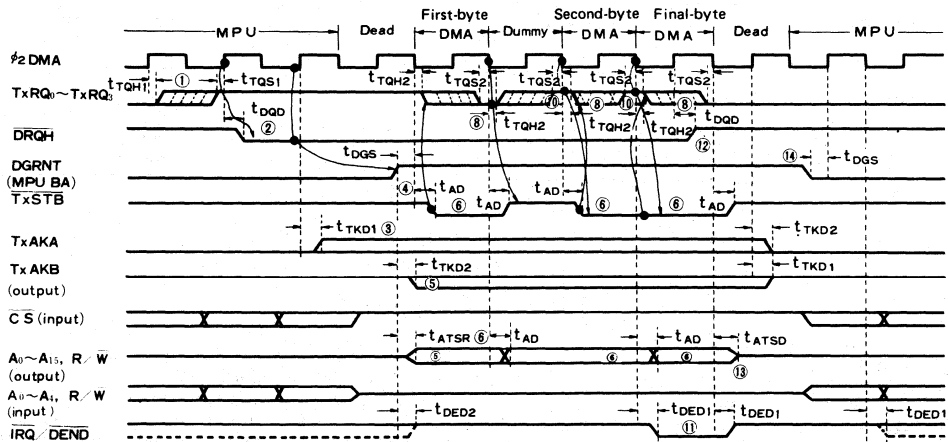

Figure 16 HALT Burst Mode
Its timing chart and flow chart are shown in Fig. 16 and Fig. 13 respectively. Procedure of transfer is the following (No. ① ~ ⑭ in Fig. 16 correspond to the following items).
- ① TxRQ input is checked at the rising edge of  $\phi_2$  DMA. When it is at "High" level, it gets into the following operation.
- ② DRQH="Low" level is given and MPU is requested to stop its operation.
- ③ TxAKA is driven.
- ④ MPU stops and DMAC waits for DGRNT rising "High" level.
- ⑤ When DGRNT rises "High" level, DMAC drives TxAKB,  $A_0 \sim A_{15}$ , and R/W lines.
- ⑥ TxSTB is sent out to perform DMA transfer.
- ⑦ Address is incremented by one and number of transfer words is decremented by one.
- ⑧ TxRQ falls to "Low" level.
- ⑨ When number of transfer words is 0, from ⑪ to ⑭ operations are performed.
- ⑩ When BCR is not "0", TxRQ is checked at the falling edge of  $\phi_2$  DMA. When TxRQ is at "High" level, DMA transfer is performed through ⑥ ~ ⑧ again. When TxRQ is not at "High" level, DMAC waits for becoming "High" level.
In burst mode, TxRQ should be also, in principle, set to "High" when I/O request is asserted, and reset to "Low" when TxSTB goes to "Low". If TxRQ is asserted as level input without being reset, DMA transfer is performed at all cycles of  $\phi_2$  DMA since TxRQ is always at "High" level at the falling edge of  $\phi_2$  DMA. Its example is shown in the second-byte and the third-byte transfer in Fig. 16.